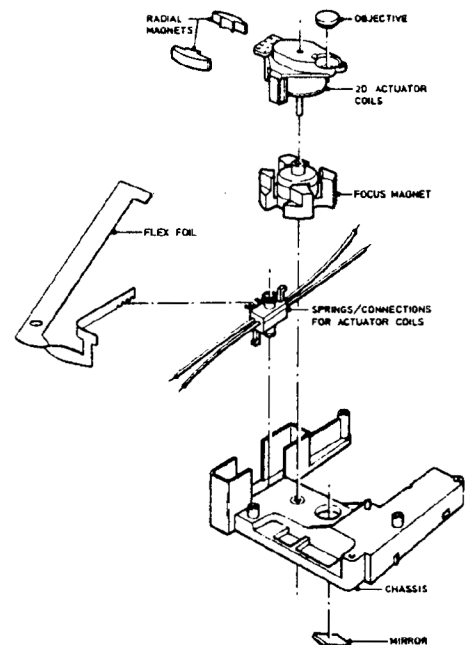

Fig. 6
- The 2D actuator assy, see fig. 6.